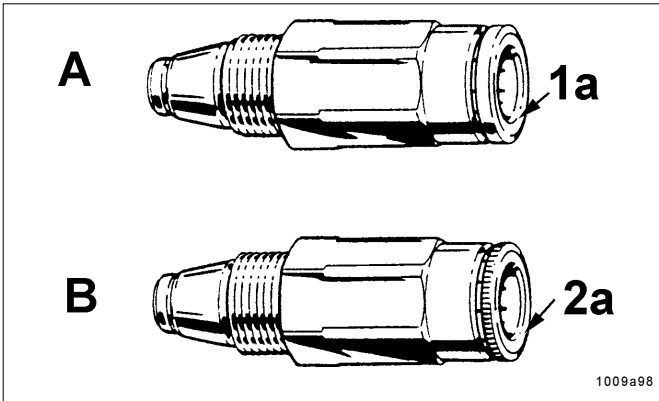

Fig. 35 - Different types of check valves
- For high-pressure plastic hose ( $\varnothing$  8.6x2.3 mm) use check valves type A (fig. 35) with reinforced collar 1a and smooth flange (part nr. 226-14091-4)
- For pressure plastic tube ( $\varnothing$  6x1.5 mm) use check valve type B (fig. 35) with standard collar (part nr. 226-14091-2)